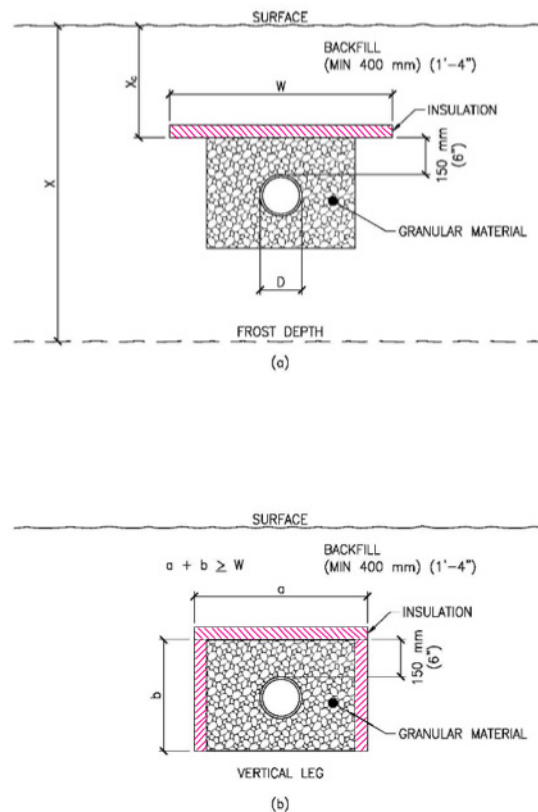

Figure 1: Insulation of Water and Sewer Lines: (a) horizontal layer; (b) inverted U (from Andersland and Ladanyi)
3. Calculate the required XPS insulation width to prevent frost from reaching the utility line from the sides. A schematic of the horizontal and inverted U configurations is shown in Figure 1.